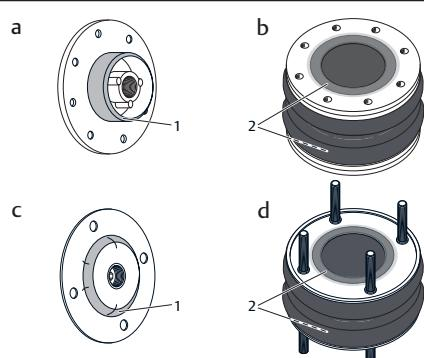

Fig. 2: Cover moistening area (1) | Bellows moistening area (2)
1. Before assembly, moisten the openings of the bellows actuator and the rims of the covers with soapy water (see Fig. 2).